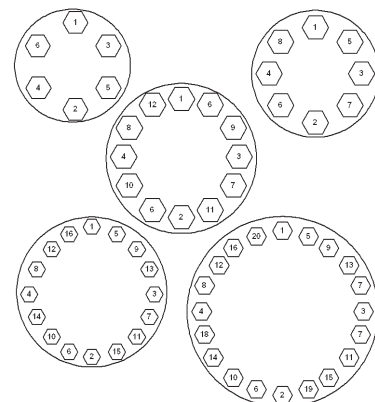

Figure 9 - Bolt Torque Sequence
Tighten the body nuts (5) evenly by applying the torque indicated on the valve assembly drawing (typical torque values are provided as references in Table 2) consult factory for other arrangements not shown on the table. Use the tightening sequence as indicated in Figure 9.